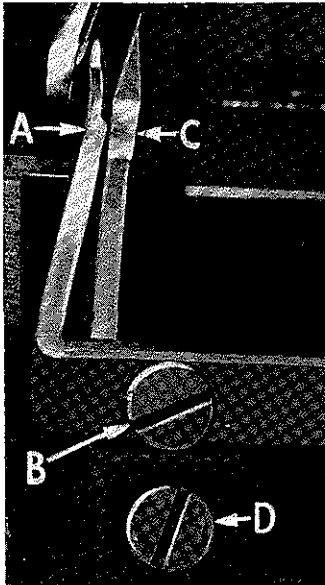

Fig. 6
Set rear needle guard (A, Fig. 6) as high as possible, without interfering with either lower looper or movement of lower knife holder, but still in position to deflect needle forward .002-.004 inch. Screw (B) is used to set rear needle guard. Make sure there is no interference between rear needle guard and lower looper.
Assemble front needle guard (C, Fig. 6). When lower looper is springing needle off back guard, set front needle guard as close as possible to needle without touching. Screw (D) is used to adjust and set front needle guard. After this setting make sure there is no interference between needle guards and main feed dog.